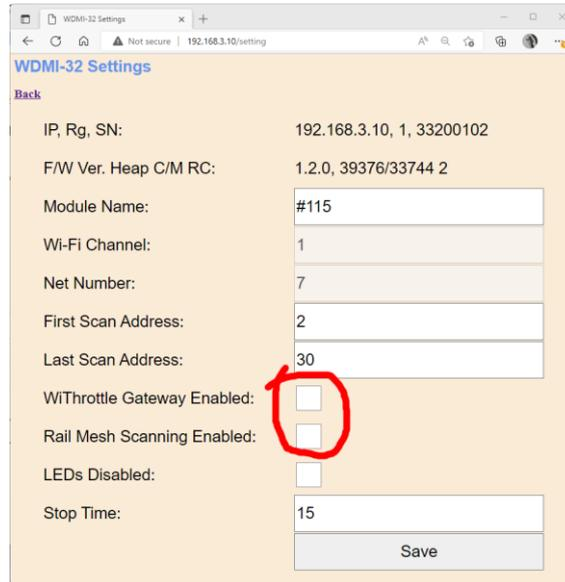

Figure 7 The Settings page of the WDMI-32. Make sure the two checkboxes circled are clear, then Save
- (3) Tap or click "Settings" and find the checkbox labelled "WiThrottle Gateway Enabled". Tap this checkbox to clear it. Also clear the checkbox labelled "Rail Mesh Scanning Enabled" as in Figure 7. Now tap the Save button. Once you have done this, you will no longer be able to use WiThrottle protocol apps to connect directly to the module. However, you can always connect with a browser.
- (4) Now hit the Back hyperlink to go back to the Main Menu, then hit Home Net to display the Home Net page. Then enter the SSID of your router and the Password as in Figure 7. You must not connect to the 5GHz Wi-Fi Access Point since the modules do not support that. Also make sure you don't add any spaces at the end of your password and that the case of all the characters is correct. When you are sure everything is correct, tap the Install button.